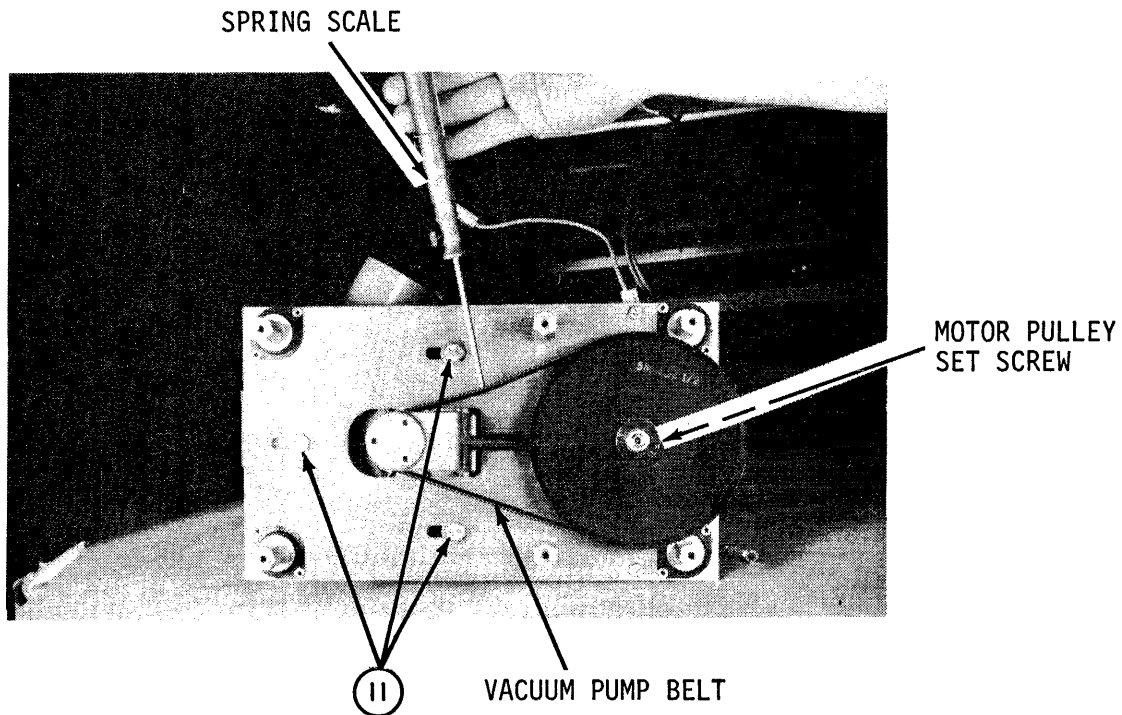

Figure 9-12. Vacuum Pump Belt Replacement
- k. LOOSEN the three hex bolts (11) holding the vacuum pump in place, figure 9-12.
- l. Replace vacuum pump belt, figure 9-12.
- m. Using a spring scale, adjust vacuum pump for a belt tension of 4-6 ounces. This is about 3/64" belt deflection, figure 9-12.
- n. With the appropriate belt tension applied, tighten the three hex vacuum pump mounting bolts, figure 9-12.